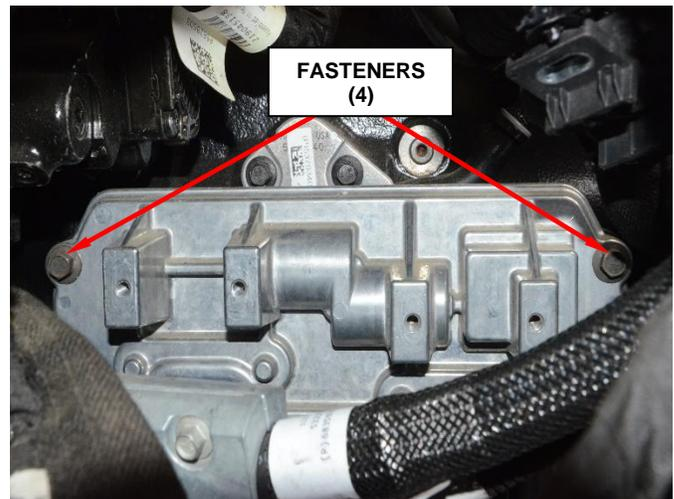

Figure 5 – PCM Fasteners
10. Remove the (4) fasteners attaching the PCM to the engine block bracket (Figure 5).
1. Align and install the PCM to the mounting bracket and tighten the fasteners to 24N·m (18ft. Lbs.) (Figure 5).